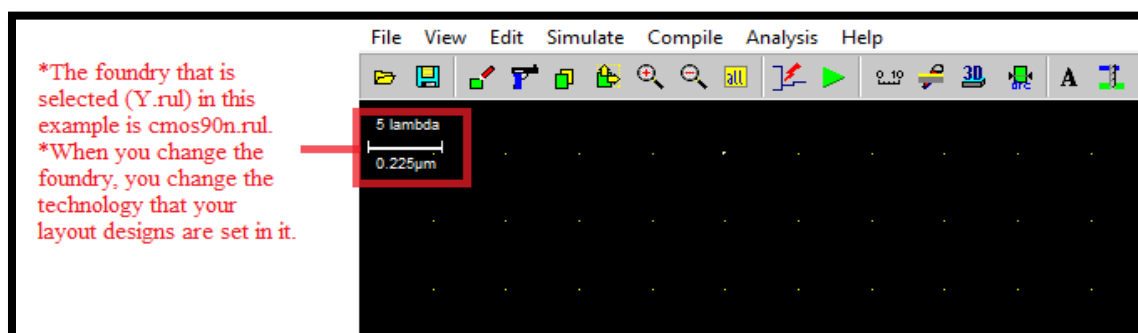

Figure 27: technology scaling
- Click on Size on the right top menus. This shows up the NMOS and PMOS sizes. Set the sizes according to choice. See figure 27: